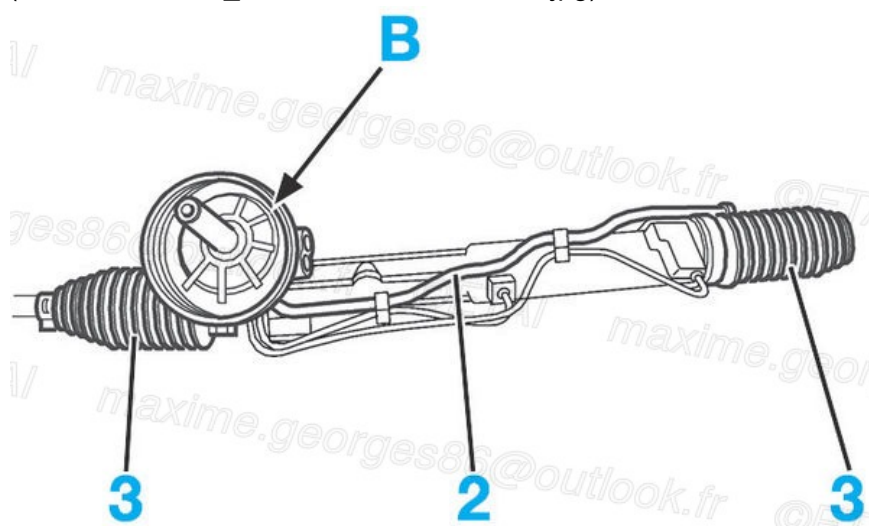

Fig.16
- graisser la portée (B) (graisse LUBRICOMET SP70) (Fig.16) (/media/RTA/RTA_714/RTA714A-006-016X.jpg).